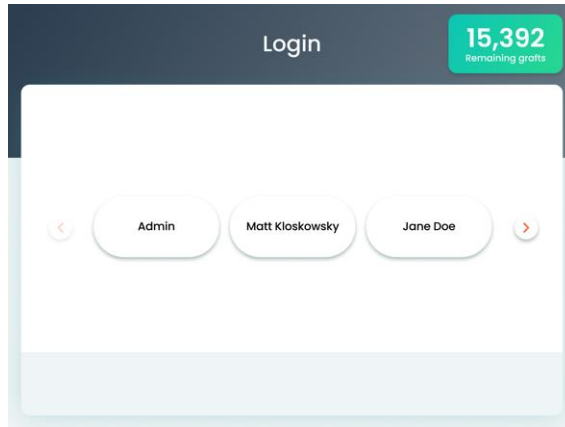

Figure 5-2. Login Account Selection Screen
4. Wait for system to complete the start process and display the Login Account Selection screen, as shown in Figure 5-2.
1. Verify that the system is turned on and the Account Selection screen appears, as shown in Figure 5-2.
- The Login Account Selection screen appears, as shown in Figure 5-2.